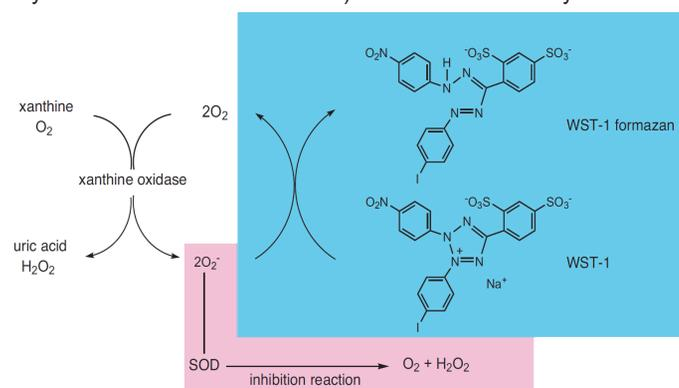

Fig.1 Principle of the determination of SOD activity using SOD Assay Kit - WST
Superoxide dismutase (SOD), which catalyzes the dismutation of the superoxide anion ($O_2^{\cdot -}$) into hydrogen peroxide and molecular oxygen, is one of the most important antioxidative enzymes. In order to determine SOD activity, several direct and indirect methods have been developed. Among these methods, the indirect method using nitroblue tetrazolium (NBT) is commonly used due to the convenience and ease to use. However, there are several disadvantages in the NBT method, such as poor water solubility of the formazan dye and the interaction with the reduced form of xanthine oxidase. SOD Assay Kit-WST allows very convenient SOD assay by utilizing Dojindo's highly water-soluble tetrazolium salt, WST-1 (2-(4-Iodophenyl)-3-(4-nitrophenyl)-5-(2,4-disulphophenyl)-2H-tetrazolium, monosodium salt) that produces a water-soluble formazan dye upon reduction with the superoxide anion. The rate of the reduction of WST-1 with $O_2^{\cdot -}$ are linearly related to the xanthine oxidase (XO) activity, and this reduction is inhibited by SOD, as shown in Fig. 1. Therefore, the IC_{50} (50% inhibition activity of SOD or SOD-like materials) can be determined by the colorimetric method (Patent filing).